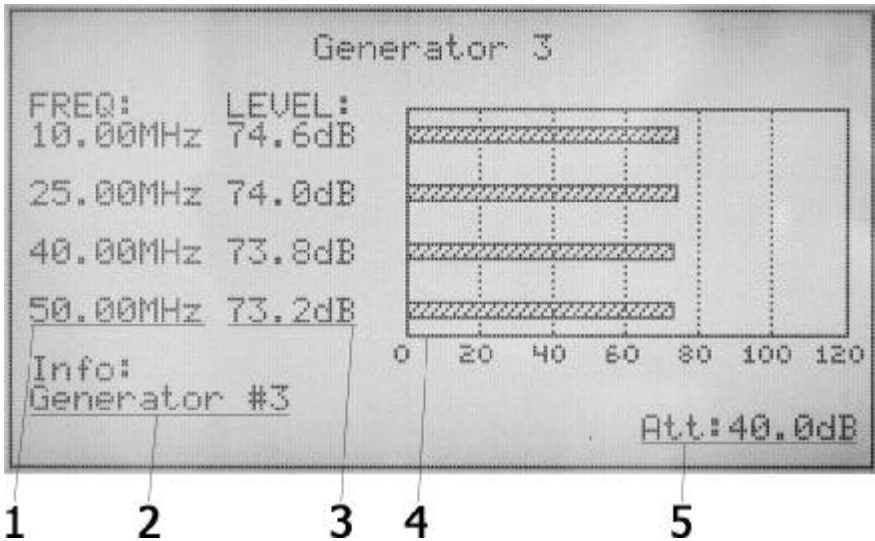

Figure 4.10
To view the GPS frequencies with levels and the text line you need to activate the generator data viewing mode. Select the required GPS using the cursor (4.9, pos. 1) and press "Enter" or "↵". The screen of the generator data viewing mode is shown in Fig. 4.10.
This auto switchover function is active only when the CIU-01 is in "Generators" mode (section 4.6.5) and in generator details view mode (Fig. 4.10). After the auto switchover the CIU-01 will be in frequency response measurement mode until it detects the Generator signal scanning the frequency. Then the CIU-01 returns to the mode it was before turning to frequency response measurements.